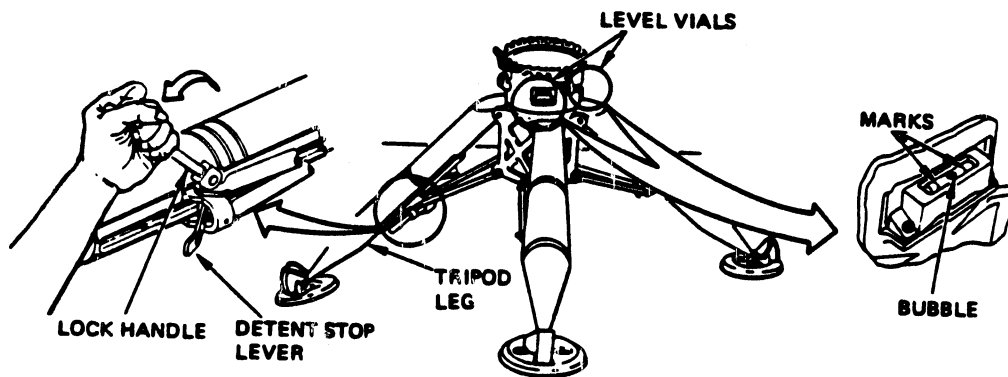

Fig 2-3. Adjusting the tripod legs/level vials.
Step 3. Position the tripod with the coupling clamp handle facing the direction of fire. Using the detent stop lever, adjust the tripod legs until the bubble in each level vial is between the two marks shown (fig 2-3).